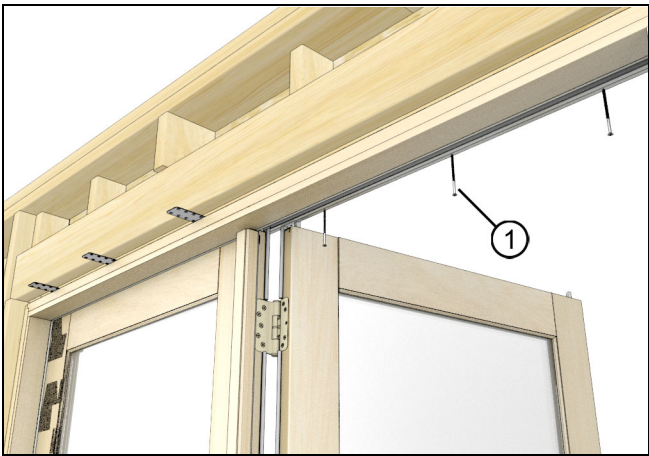

Figure 17
3. For units with a stationary panel and an interior astragal, the head jamb cover cannot be removed. Installation screws (minimum #8 x 3") will go through the head/jamb above any active panel and installation brackets will be used above any stationary panel. See Figure 17.